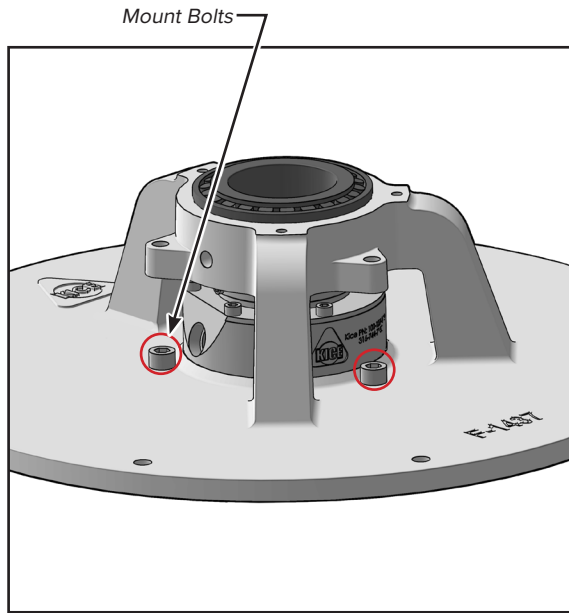

FIGURE 20
9. Remove the three dynamic seal mount bolts from the airlock endplate (figure 20).
14. Install mount bolts from endplate to dynamic seal (figure 20). Cross tighten the three bolts.